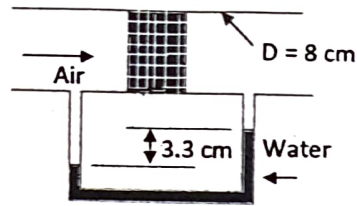

Fig. 2
3.	An oil of density 900 kg/m^3 flowing through an elbow makes a 155° turn before being discharged, as shown in Fig.2. The elevation difference between the centers of inlet and the exit sections is 0.4 m and the inlet velocity is 7 m/s. If the pipe diameter at the entrance and exit are 350 mm and 100 mm, <ul style="list-style-type: none"> a) Determine the gage pressure at the pipe entrance, assuming the pressure at the exit is atmospheric. b) Neglecting the weight of fluid and elbow, find the total force needed to hold the pipe in place.  <p style="text-align: center;">Fig.1</p>